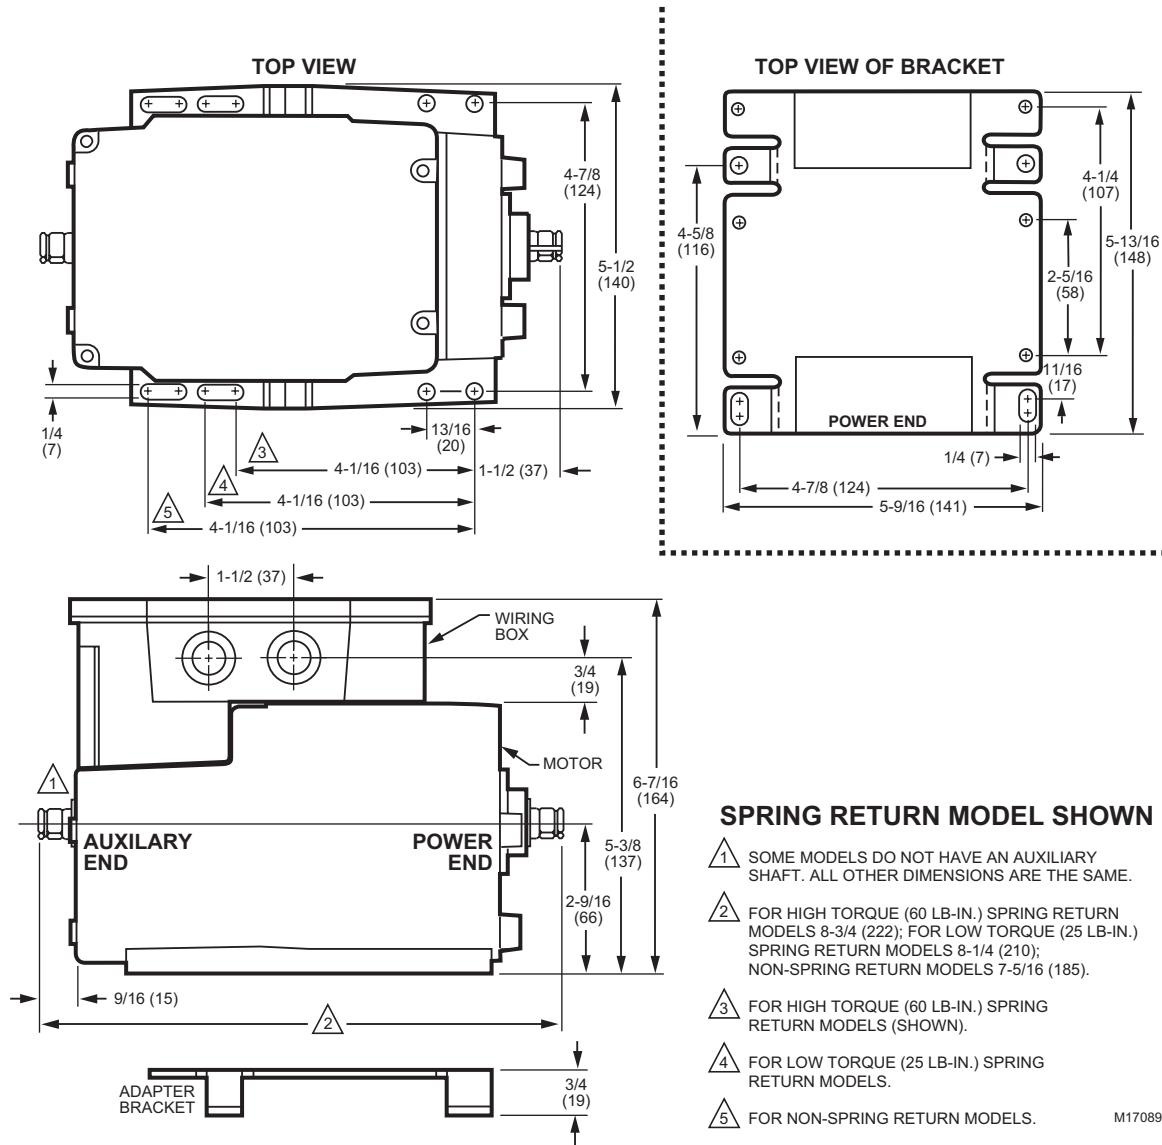

Fig. 1. Series 72 Modutrol IV Motor dimensions in in. (mm).
**Dimensions:** See Fig. 1.
Allow enough clearance for accessory installation and motor servicing when selecting a location (see Fig. 1). If located outdoors, use liquid-tight conduit connectors with the junction box to provide NEMA 3 weather protection. If mounted outdoors in a position other than upright, install a 4074ERU Weatherproofing Kit and liquid-tight connectors to provide NEMA 3 protection.